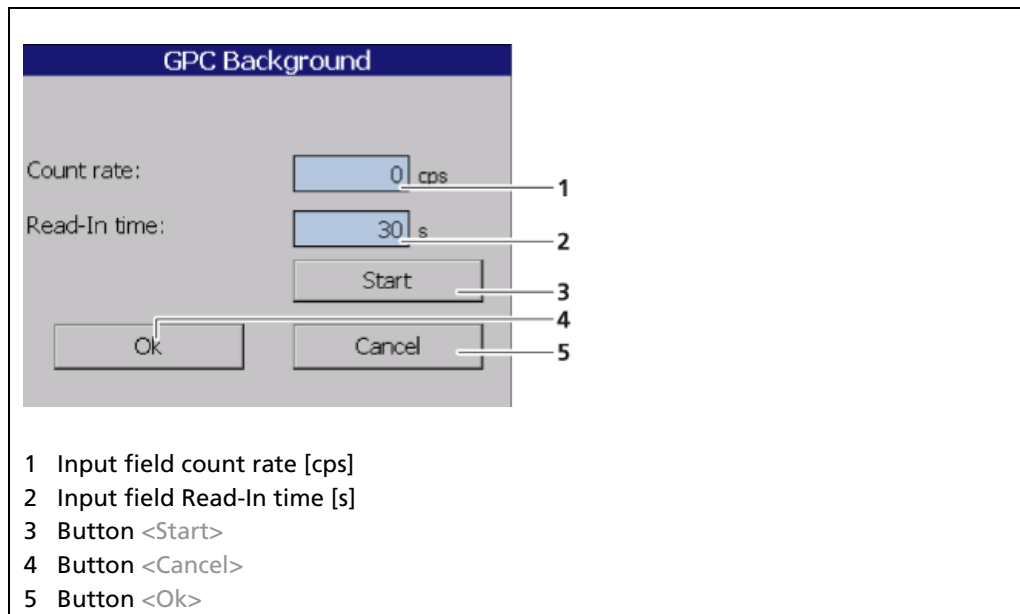

Fig. 81 GPC calibration background
- ▶ A new window "Background" opens to determine the background radiation (Fig. 81).
The value of the count rate can be entered manually (Fig. 81, item 1) if a determination of background radiation without interference radiation effects is not possible.